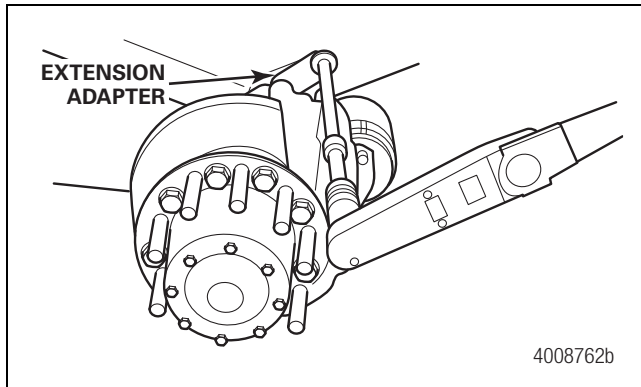

Figure 5.7
3. Use an appropriate size socket wrench (or extension adapter MST225 5001 if required), to tighten the carrier bolts to the torque values specified in Section 8. Figure 5.7. **ⓘ**